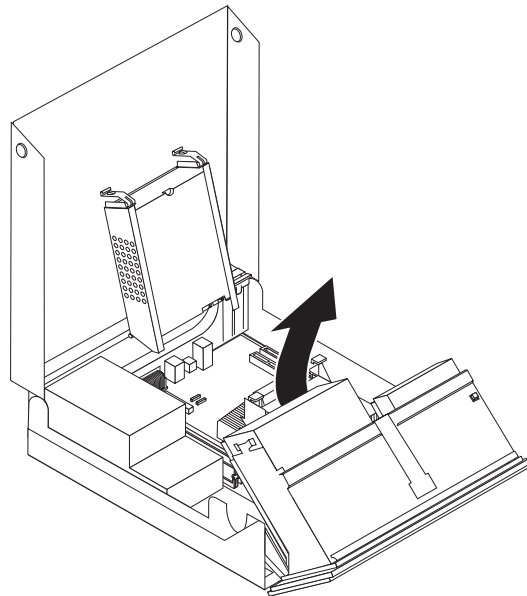

Figure 6. Pivoting the drive bay
2. On some models, you might need to pivot the drive-bay assembly upward and pivot the hard disk drive upward to access the internal components, see Figure 6.